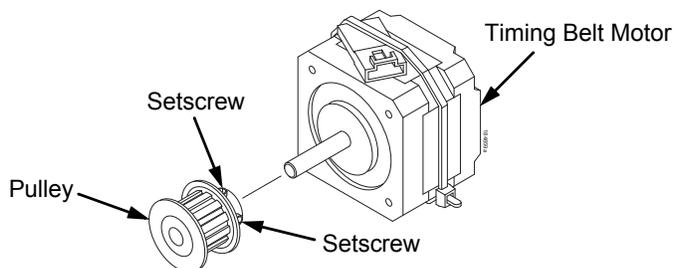

Figure 29. Removing the Timing Belt Motor Pulley
5. Loosen the two setscrews on the motor pulley and remove the pulley. Unplug the motor cable, if necessary. (Figure 29.) Go to step 6.